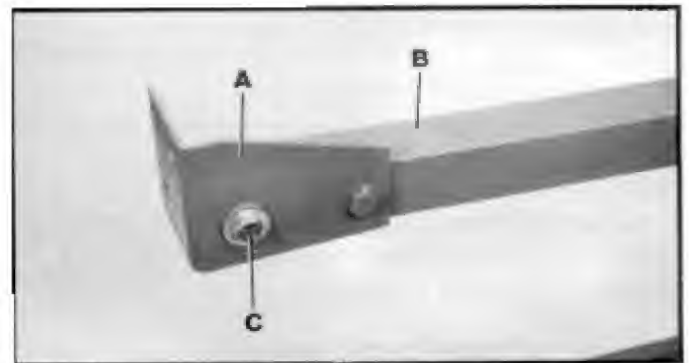

Fig. 14
1. Align foot (A) Fig. 14 with welded bolt, with holes in leg section (B) and fasten foot (A) to leg section (B) with one 1-1/2 inch-long screw (C), three flat washers, two lock-washers and two hex nuts. **IMPORTANT:** Foot (A) Fig. 14, must be positioned on the outside of leg Section (B) as shown. Do not overly tighten hardware at this time; adjustments will be necessary after unit is upright.
2. Assemble remaining two feet (A) Fig. 14, to the other leg sections in the same manner.